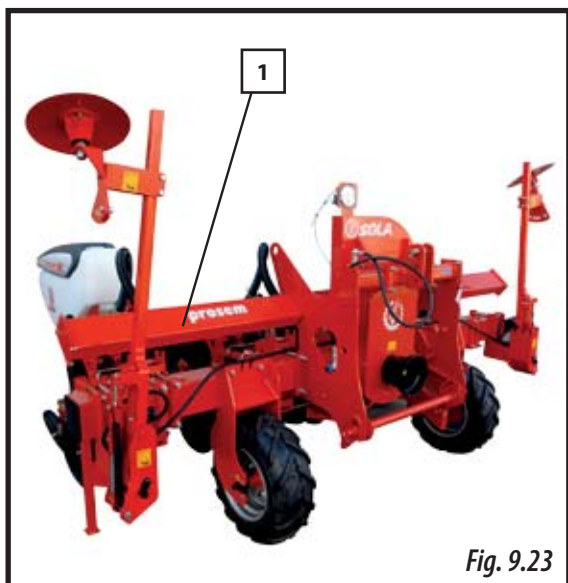

Fig. 9.23
**IMPORTANT:** ALWAYS KEEP THE AIR RESERVOIR CLEAN (1, Fig. 9.23) AND PERIODICALLY CHECK IT IS IN GOOD CONDITION.